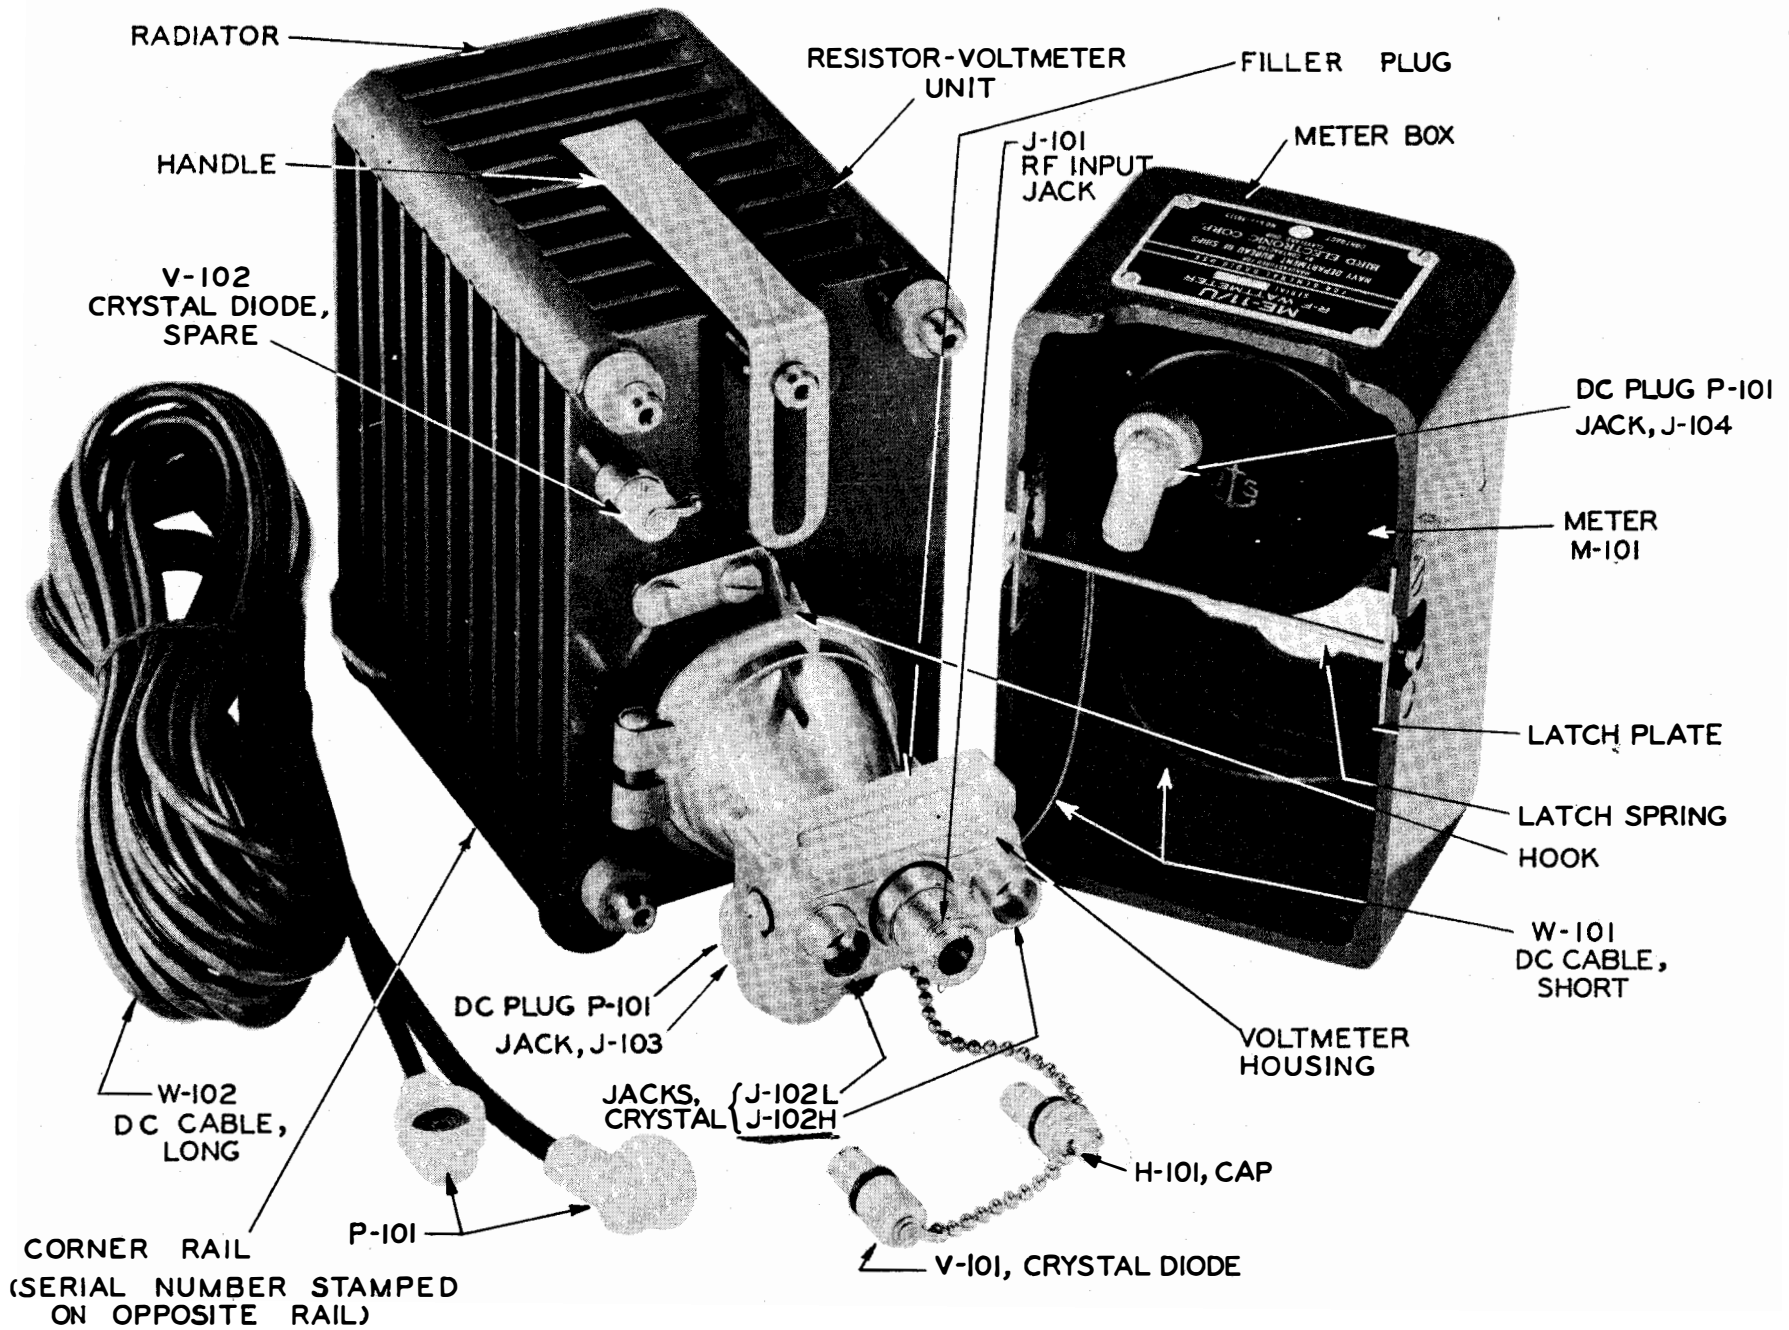

Fig. 1-2. RF Wattmeter ME-11/U, Meter Box Detached
5. MAJOR COMPONENTS (See Fig. 1-2)
a. Figure 1-2 shows all components of the RF Wattmeter ME-11/U, with the meter box detached to illustrate the arrangement for remote use of the indicating meter where the meter cannot be conveniently read when attached to the Resistor-Voltmeter unit.
d. The RESISTOR-VOLTMETER unit (See Fig. 1-2) includes the coaxial load resistor R-101 surrounded by a finned radiator structure on which are mounted the spare crystal diode and various hardware items. The load resistor cylinder and conical reducer are OIL